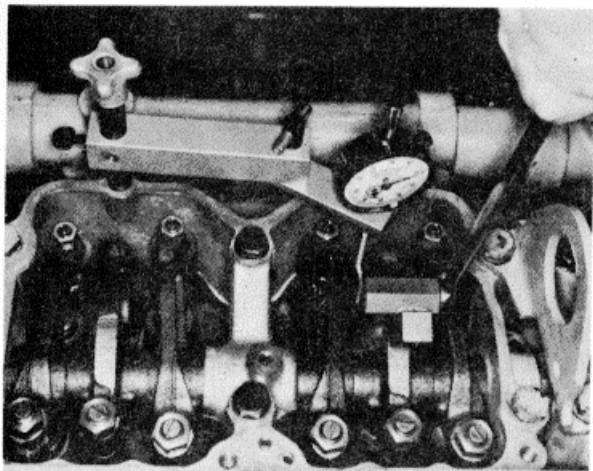

Fig. 2-51, (N114237) Bottoming injector plunger in cup
2. Install ST-1270 to rocker housing with indicator extension on top of injector plunger for cylinder as determined in Step 1 above. See Fig. 2-51.
3. Screw injector lever adjusting screw down until plunger is bottomed in cup, back off approximately 1/2 turn then bottom again, set dial indicator at zero (0).
5. Using ST-1193 Rocker Lever Actuator, bottom injector plunger, check zero (0) setting. Fig. 2-51. Allow plunger to rise slowly, indicator must show plunger travel to be within range specified in Table 2-12.